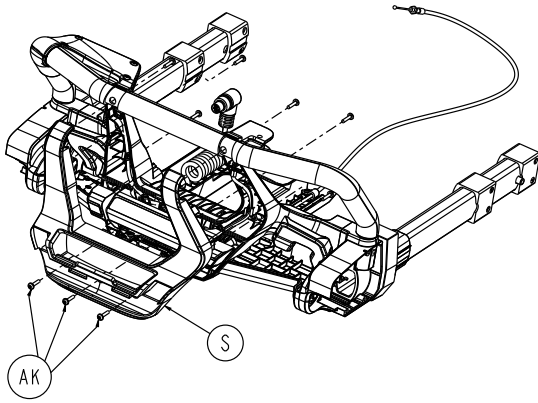

Figure 75 – Remove the foot end enclosure
- Using a T20 Torx driver, remove the three round washer head tapping screws (AK) from the foot end enclosure (S) (Figure 75). Remove the front foot end housing. Save all parts.